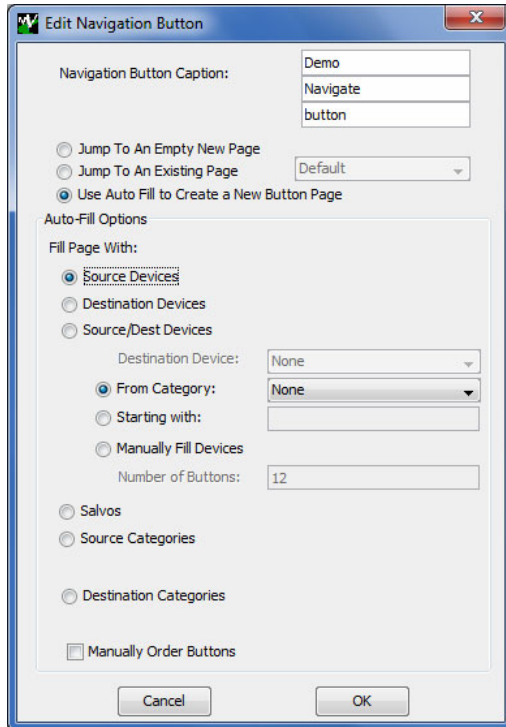

Figure 11-53. Edit Navigation Button Dialog Box
- **Use Auto-Fill to Create a New Button Page**—Activates auto-fill options. Auto fill automatically generates a number of button assignments on one or more subpages as defined in the ‘**Edit Navigation Button**’ dialog box, as shown in Figure 11-53.